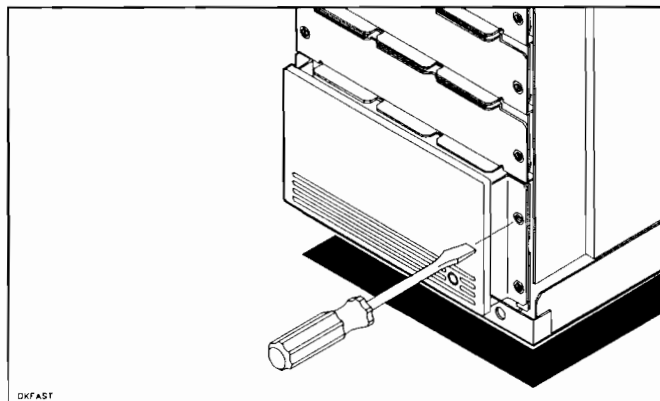

Figure 2-5. Securing a Device
3. Align the mounting screws with the holes in the chassis, and tighten the screws securely (see Figure 2-5). 2-shelf devices have four mounting screws and 1-shelf devices have two mounting screws.